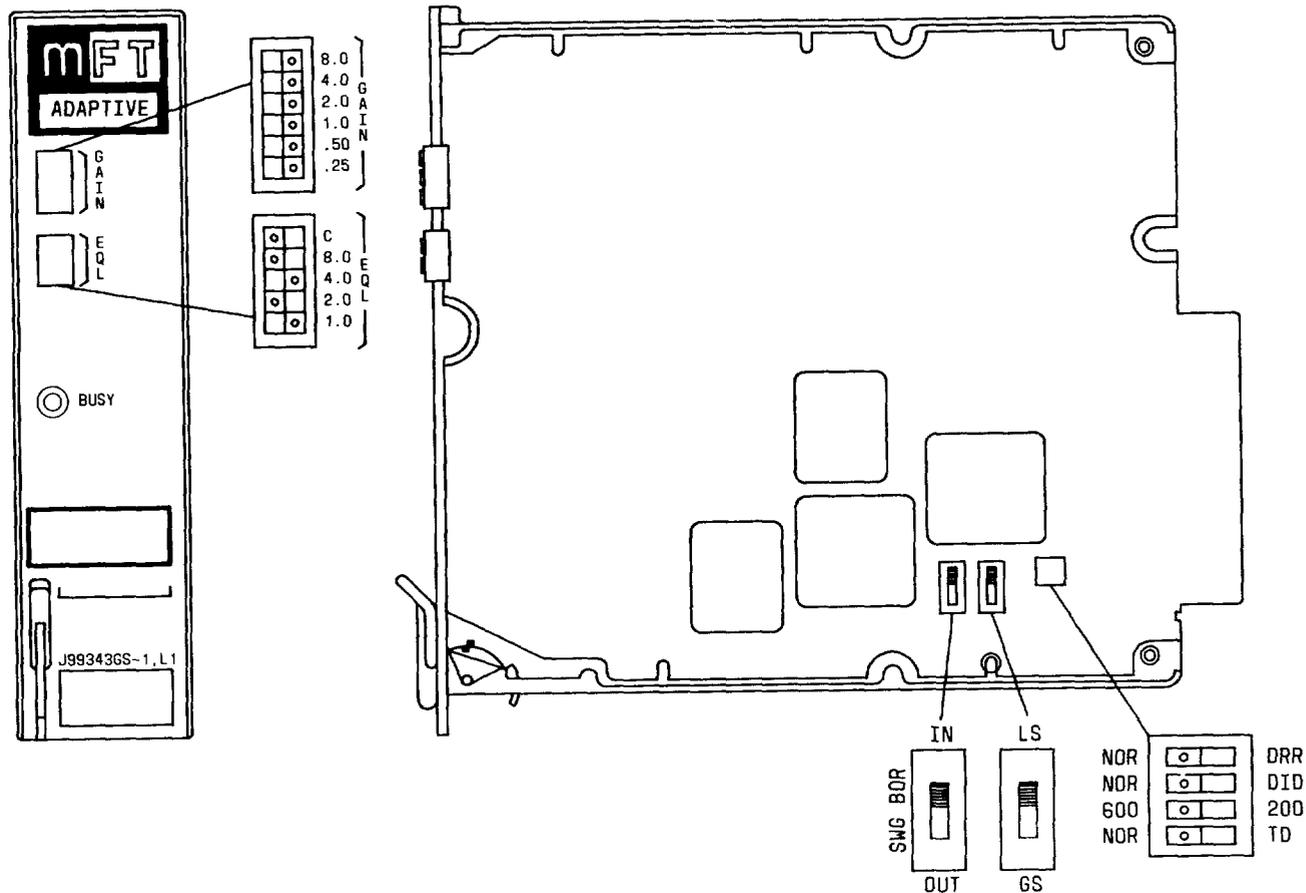

Fig. 1—J99343GS 2-2 Wire CFU—Component Layout
**2.28** The J99343GS CFU unit signaling controls, described briefly in the following paragraphs, are illustrated in Fig. 1.